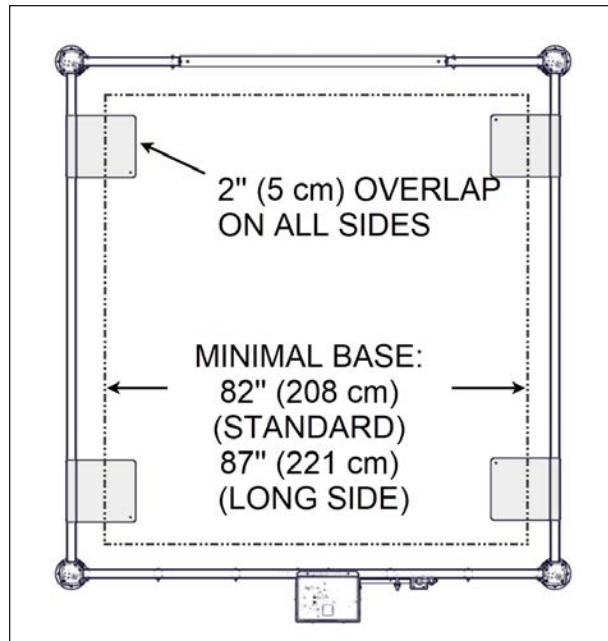
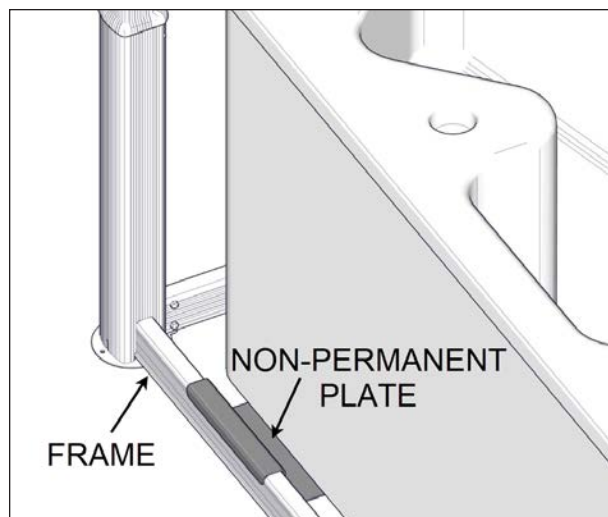

FIGURE 70: LOCATION OF THE PLATES
FIGURE 71: PLATE AND U-FRAME
*Three installers are required. Two installers should lift the spa at one end approximately 4" off the ground while the third installer slips the non-permanent mounting plates under the spa and hooks them over the U-frame see Figure 70 and Figure 71.*
2. Repeat step on the other side as shown on Figure 71